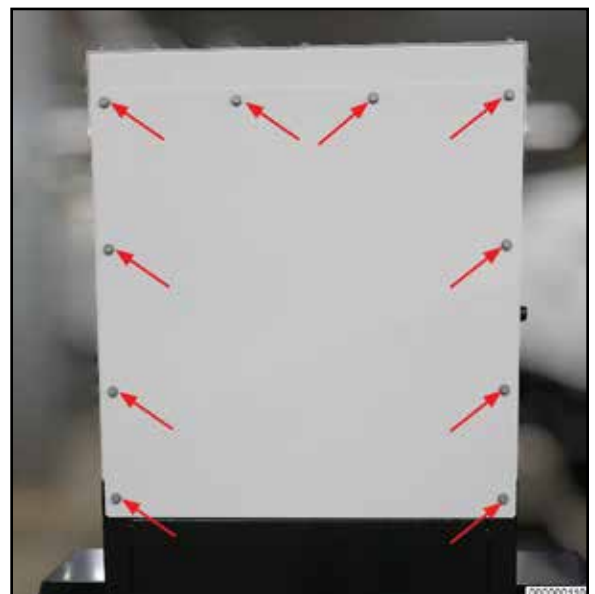

Figure 3
- **Step 4: Using a 13 mm socket and driver, proceed to remove all ten (10) bolts from the Rear Enclosure Frame Cover panel, then set the panel on a sturdy flat work surface. (Figure 3)**